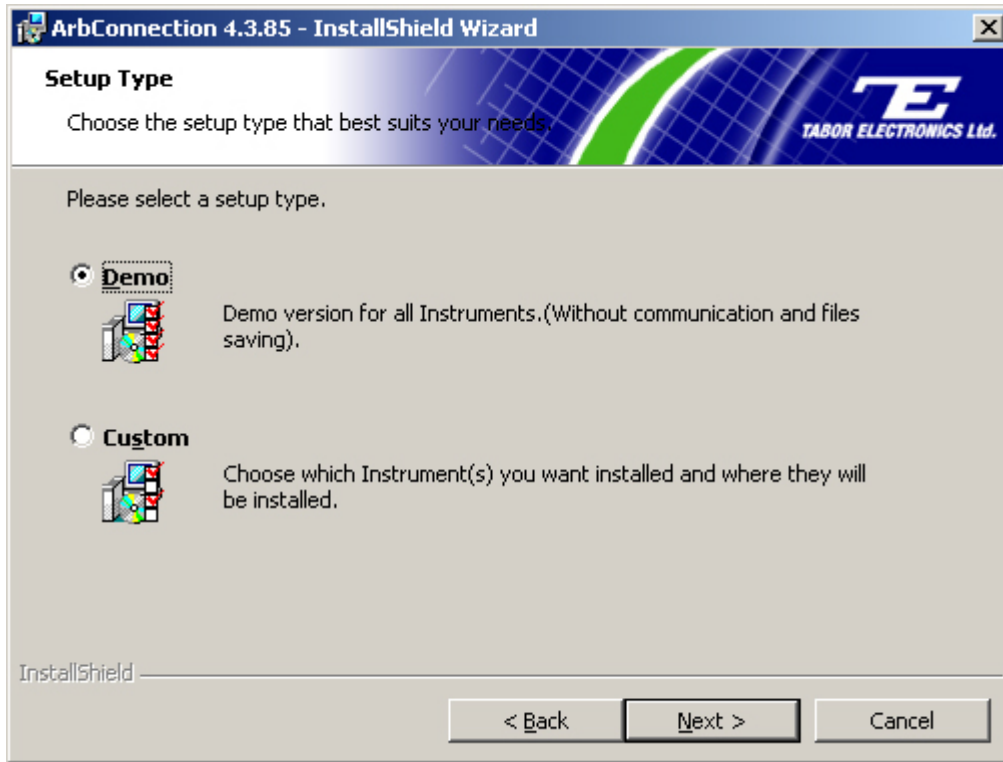

Figure 2-5: Demo Setup Selected
5. Choose either “Demo” or “Custom” installation (Figure 2-5). Choose “Demo” if you would like to learn more about the “look, touch and feel” of **ArbConnection** before actual usage. This option does not include communication with your waveform generator or saving any new files created.